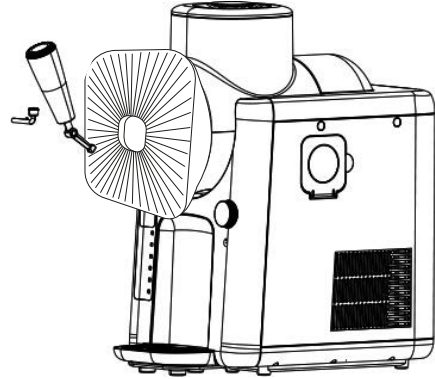

Fig. 4
11. Insert the spout into the opening and secure it by inserting the locking pin (Fig. 4). Ensure that the outlet openings and the spout lever are aligned. Then insert the locking pin and turn it until the small side pin fits into the opening in the device. If the white plunger in the dispensing chute is not properly seated and prevents the spout from being inserted, please follow the instructions in the „Cleaning and Care“ chapter.